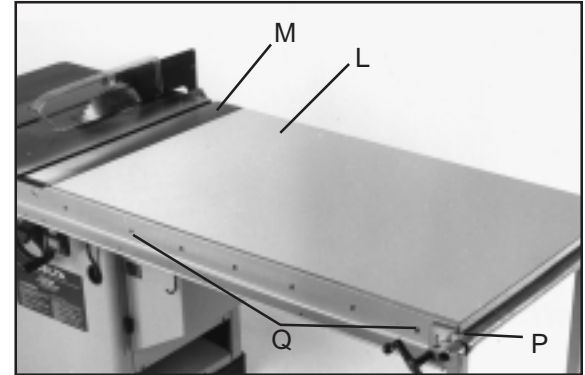

Fig. 12
9. Place table assembly (L) Fig. 12, in position between the two rails, as shown. Make sure end of table is flush against saw table (M). Using a straight edge make sure table (L) is in the same plane and level with saw table (M). Lightly tap up or down and adjust leg leveling screws. When you are certain table (L) is level and in the same plane with saw table (M) tighten bar clamp (P) to hold everything in position. Then drill 1/4" holes through the front and rear of the extension table using holes (Q) provided in rails as a template. **NOTE: Number of holes (Q) in the front and rear rails will vary depending on the length of the rails you purchased.**